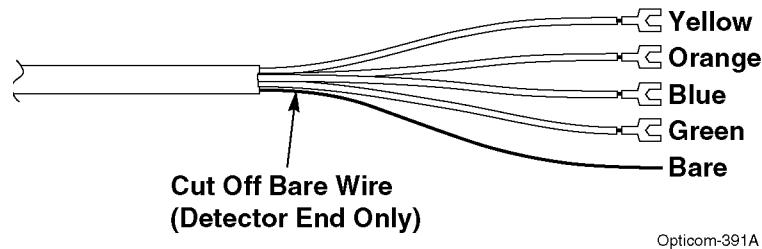

Figure 5-3. Model 739 Detector Cable Preparation
2. Cut off 5 cm of outer jacket from the Model 739 detector cable, which is already routed to the inside of the detector housing. Remove the shield with the outer jacket. Also cut off the bare wire. See Figure 5-3.